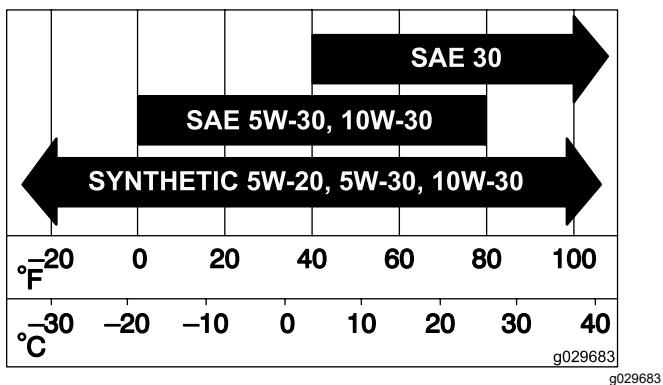

Figure 44
5. Gently slide the filter out of the air-cleaner body (Figure 44).
3. Release the latches on the air cleaner and pull the air-cleaner cover off the air-cleaner body (Figure 44).
2. Carefully slide the filter into the air-cleaner body (Figure 44).
3. Install the air-cleaner cover and secure the latches (Figure 44).